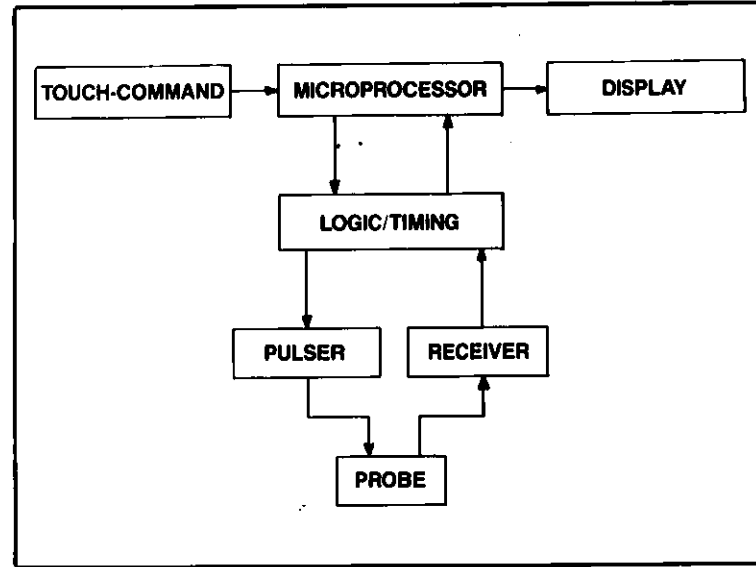

Figure 5.1 Basic Functional Diagram of **NOVA 100-D**
The powerful transmitter pulser, high sensitivity receiver and informative digital display function in concert with the microprocessor (Figure 5.1) to produce the unparalleled performance offered by the **NOVA 100-D**.
A “-” Couplant Bar Annunciator automatically appears in the lower-central portion of the display (see Figure 5.1) to help qualify the integrity of the accompanying thickness reading. It helps indicate (1) satisfactory coupling, (2) adequate material penetration and (3) proper probe/beam normalization (perpendicularity to surface).